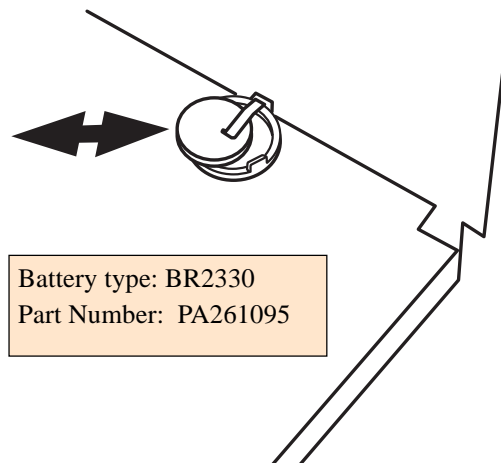

Figure B3.2d Replace battery
5. Push the battery out of its holder as shown in figure B3.2d.